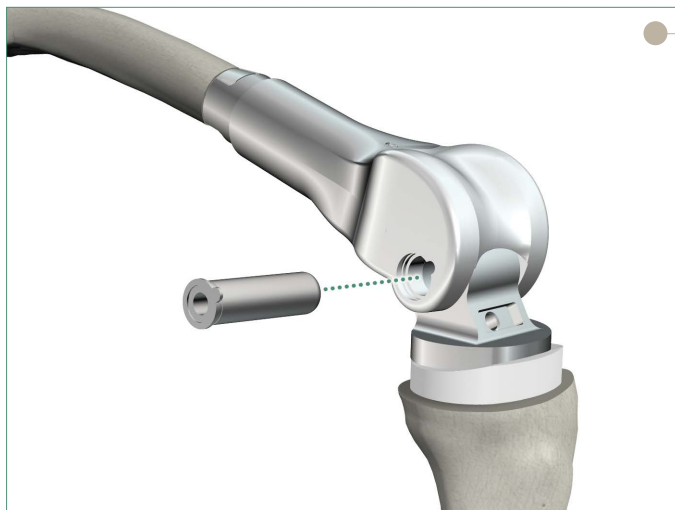

Figure 30
- ▶ Once the tibial insert thickness has been determined, deconstruct the Axis and Tibial Bearing Component and remove the Trial Tibial Insert. Snap-in the appropriate thickness Tibial Insert corresponding to the tibial component, drop in the Tibial Bearing Component, and reinsert the Axis (**Figure 30**).